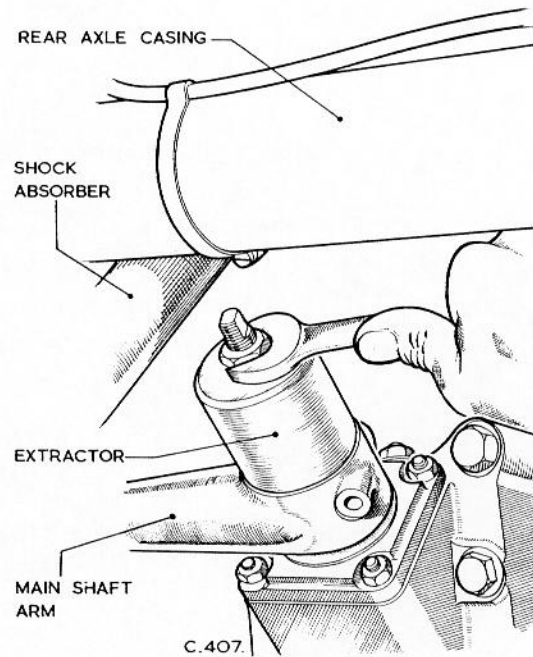

Fig.26 Torsion bar extractor.
4. Remove the nut and shake-proof washer and withdraw the bolt securing the torsion bar in the suspension unit, then withdraw the torsion bar from its serrations, using the extractor TFN.5026, see Fig. 26.
8. Using extractor TFN.5026 (see Fig. 26) withdraw the torsion bar from the serrations in the suspension unit. Withdraw the torsion bar from under the axle.